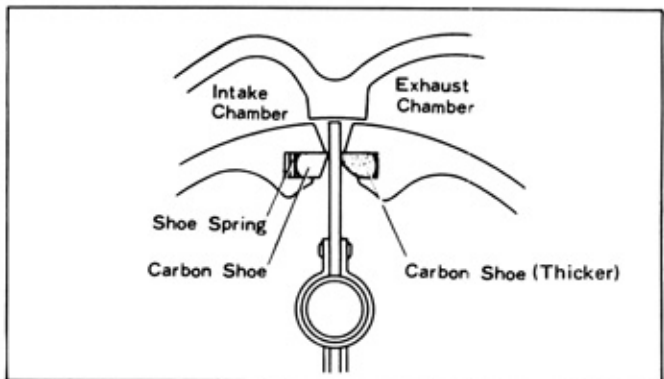

Fig. 8-32 Shoe and Spring Position
- Assemble the shoe spring and carbon shoes in the positions shown in Fig. 8-32.